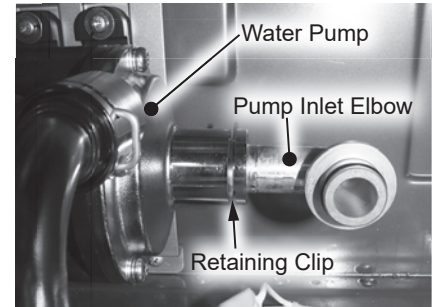

Figure 182 - Pump inlet elbow location
- Locate the pump inlet elbow. Remove the retaining clip securing elbow to water pump. Remove pump inlet elbow and dispose of properly. See Figure 182.